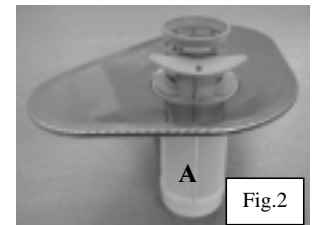

Fig.2
**Step 3:** Rinse filters under running water and ensure that large food particles are removed from Area A (Fig.2).